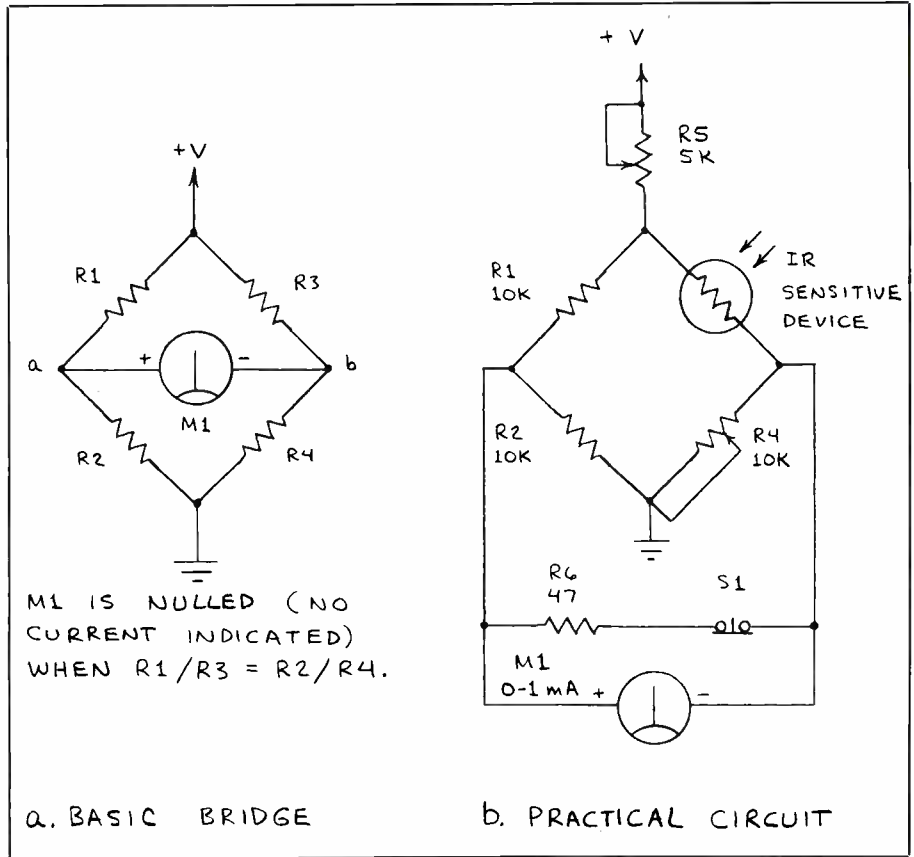

Fig. 8. Wheatstone bridge for infrared-sensitive resistors.
Thermistors are very inexpensive, many being available for a few dollars or less. Their response time of as little as a few milliseconds is faster than that of thermocouples. However, the circuitry required to monitor their resistance is somewhat more complex than circuits used with thermocouples. Often, thermistors are connected in a Wheatstone bridge circuit, as shown in Fig. 8. To provide ambient temperature compensation, *R1* in Fig. 8(B) can be a thermistor that is identical to the adjacent IR-sensitive device. Both thermistors should be mounted close together. The active device should be exposed to the infrared being monitored, and the compensating device should be shielded.